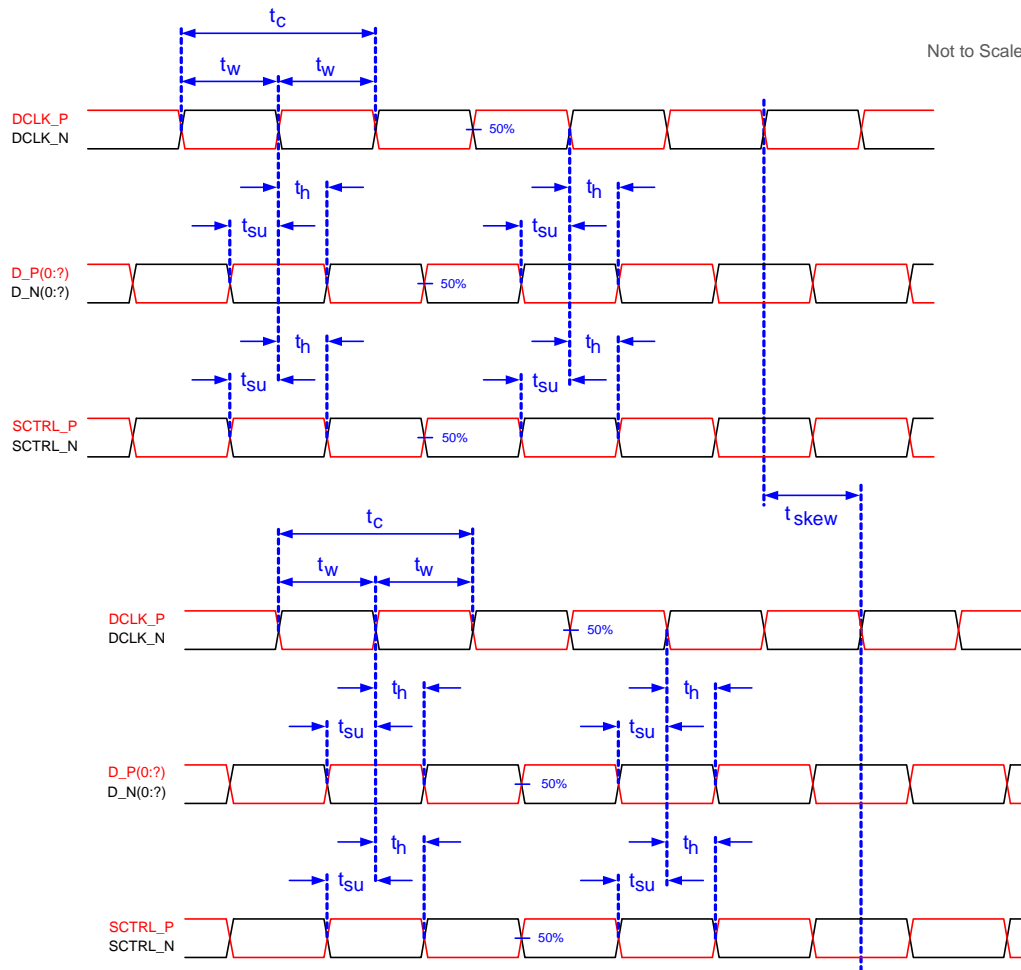

Figure 6. Timing Requirements
(8) See LVDS Timing Requirements in Timing Requirements and Figure 6.